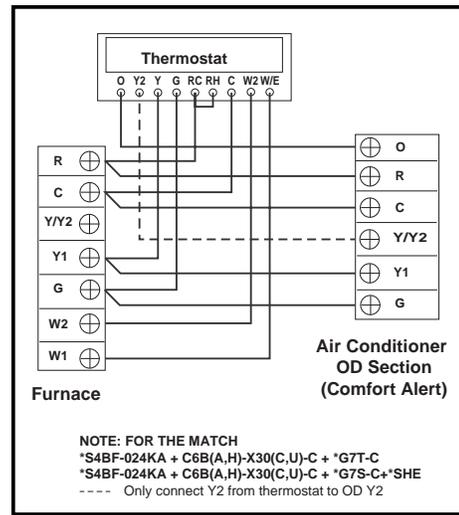

Figure 3. Typical 2-Stage Air Conditioner (with Comfort Alert) with Gas Furnace
- Thermostat connections should be made in accordance with the instructions supplied with the thermostat and the indoor equipment. Typical AC and thermostat hookups are shown in Figures 3 & 4.